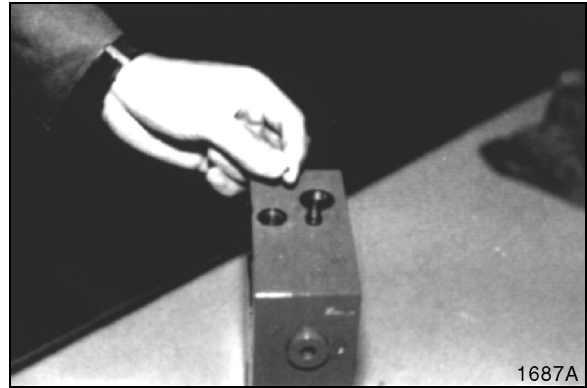

Figure 93
2. Install steel balls. See Figure 93.